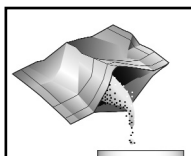

Figure 1
2. Empty the contents of one Zinc Foil Pack into the reaction tube (fig. 1). Cap the reaction tube and shake it vigorously for exactly **3 minutes**.